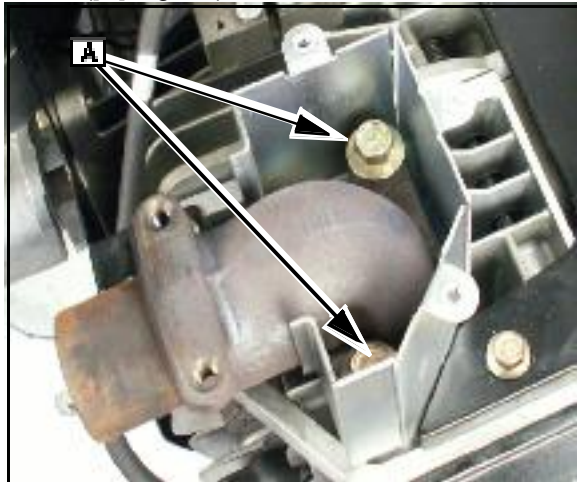

Fig. 26
3. Place exhaust manifold elbow on gasket in heat shield and install mounting bolts. ([A] Fig. 26)